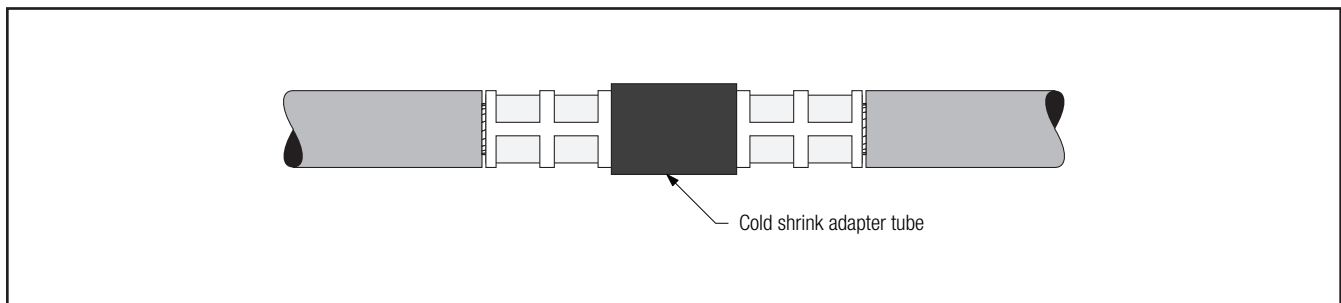

Figure 18
- 5.2 **If using cold shrink adapter tube:** Position adapter tube over the connector. Shrink adapter near center of connector by pulling and unwinding the loose core end in a counter-clockwise direction (*Figure 18*).